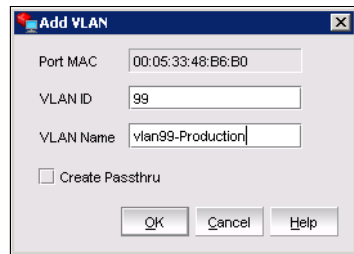

Figure 7-105 Add VLAN window
2. In the Add VLAN window (Figure 7-105), set the VLAN number and VLAN name. Then click **OK**.